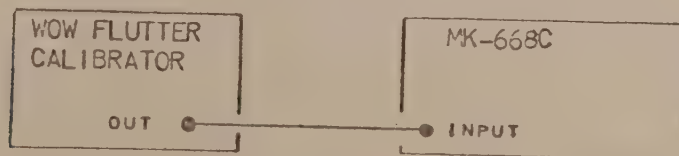

Fig. 4-1 Wow flutter range checking.
Connections: See Fig. 4-1.
1. Connections: See Fig. 4-1. The wow flutter calibrator, MWS-670B or MWS-670C, is connected to the INPUT of MK-668C.